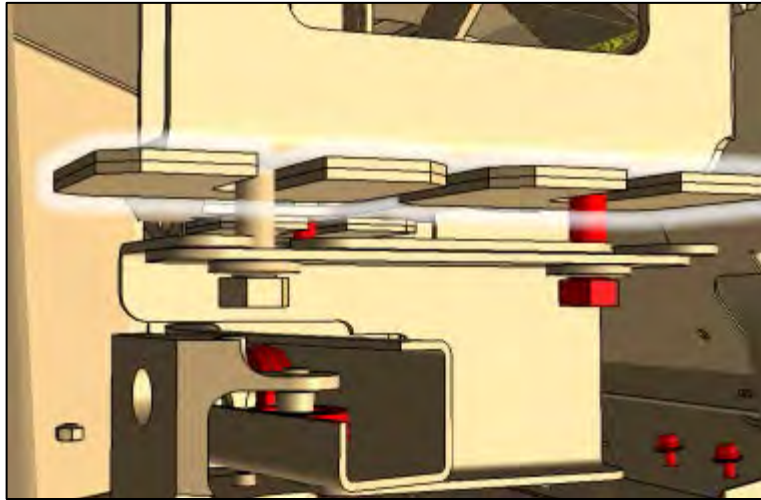

Figure 55
77. Insert the required number of shims for all three screws on the front and rear rail support. (Figure 55)